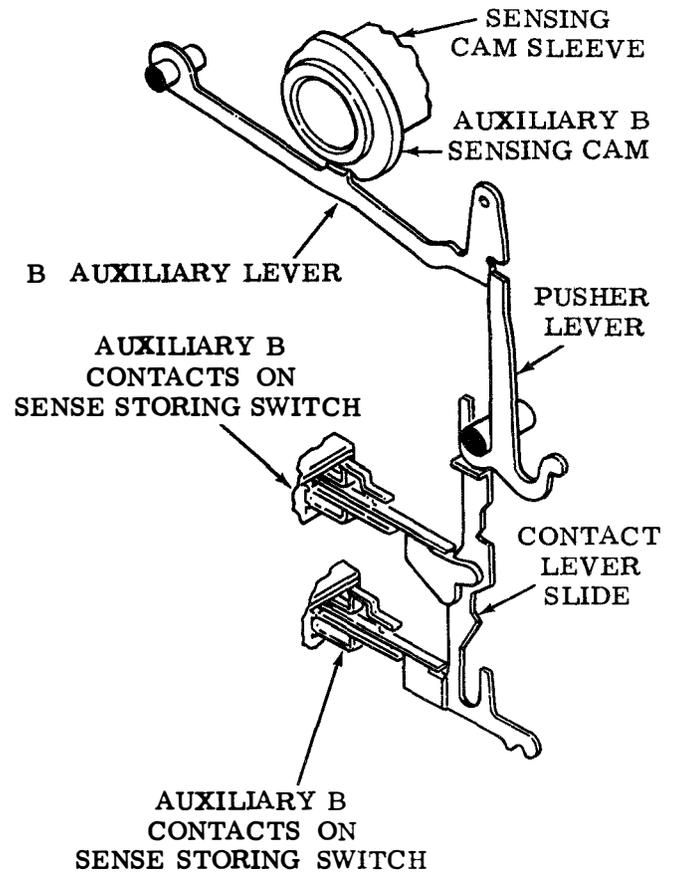

Figure 14 - Auxiliary B Contact Actuator
6.04 The distributor clutch trip magnet is controlled by the auxiliary B contact actuator mechanism (Figure 14) which depends on the rotation of the sensing cam sleeve.
7.04 After approximately 43 degrees of sensing cam sleeve rotation, the clutch reset cam disengages the clutch triplever (Part 6). After approximately 133 degrees of sensing cam sleeve rotation, the auxiliary B contact (on the sense storing switch) is actuated by the auxiliary B contact actuator (Figure 14).